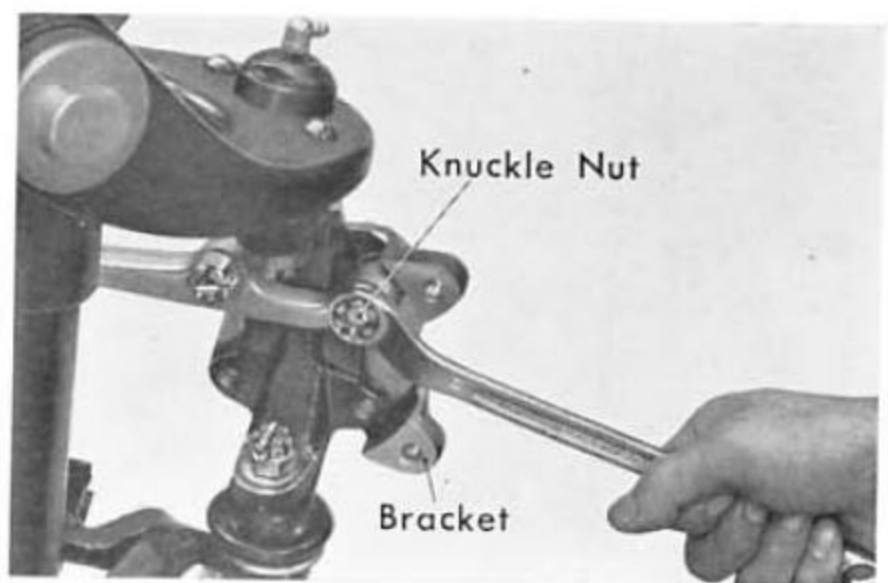

Fig. 15A-2
4. Remove the cotter pins and loosen the upper and lower arm nuts using a knuckle supporter to prevent turning (Fig. 15A-3).